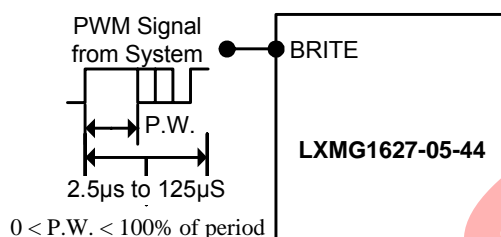

Figure 1A – PWM Brightness Control
- The brightness control may be a voltage output DAC or other voltage source, a digital pot or 500k manual pot. The inverter contains an internal 191k pull-up resistor in series with 43.2k to 4.2V to bias the pot (see block diagram). A PWM logic level signal (figure 1A) may be used up to 5V; however the inverter will reach maximum current at less than 100% duty cycle. This can be calculated as approximately 2.3V divided by the logic high voltage level; with 3.3V logic level this corresponds to about 70% duty cycle for maximum lamp current